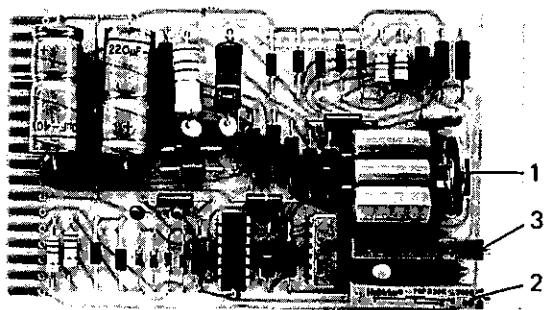

Fig. 5 Measurement and control amplifier A 1
3. Measurement and control amplifier A 1 (see Fig. 5)
When the cooling water for the gun is switched on and the necessary throughput is signalled by the water flow control, the heater current (FILAMENT ON) can be switched on. This heater current is interlocked by the relay K 11 of the coil monitor. This means that the heater current is switched off if the current supply to the coil falls below a minimum value (0.4 A) set on the potentiometer R 11. When the high voltage is switched on, a control signal is transmitted by the control amplifier A 1 (Fig. 5) via the EHV, to the thyristor driver printed circuit. By this cathode overheating is avoided if the high voltage supply fails. The cathode heater is switched on in two stages by pressing the push-button FILAMENT ON (time relay K approx. sec.). Hence, to a large extent, the cathode can be protected from distortion.
(see Fig. 5 measuring and control amplifier A 1)
The emission current should now rise to 500 mA without overshooting; otherwise the damping must be increased with the potentiometer R 9 (Fig. 5, item 1)
Adjust the emission current to 500 mA with the "EMISSION CONTROL" potentiometer (Fig. 1, item 5). Then tune the emission current with the potentiometer R 6 (Fig. 5, item 2) until the EHV, high voltage supply, also reads a current of 500 mA (calibrating the emission current control circuit).
Without the high voltage, the emission current meter MJ 1 on the EKS 110 A should read about 1/2 to 1 scale division. Adjust this value with the potentiometer R 8 (Fig. 5, item 3).
Turn the trimmpot R8 (minimum) on the measuring and regulating amplifier (see operating instructions EKS 110 A, Fig. 5, item 2) until the indicator display half a scale division positiv.